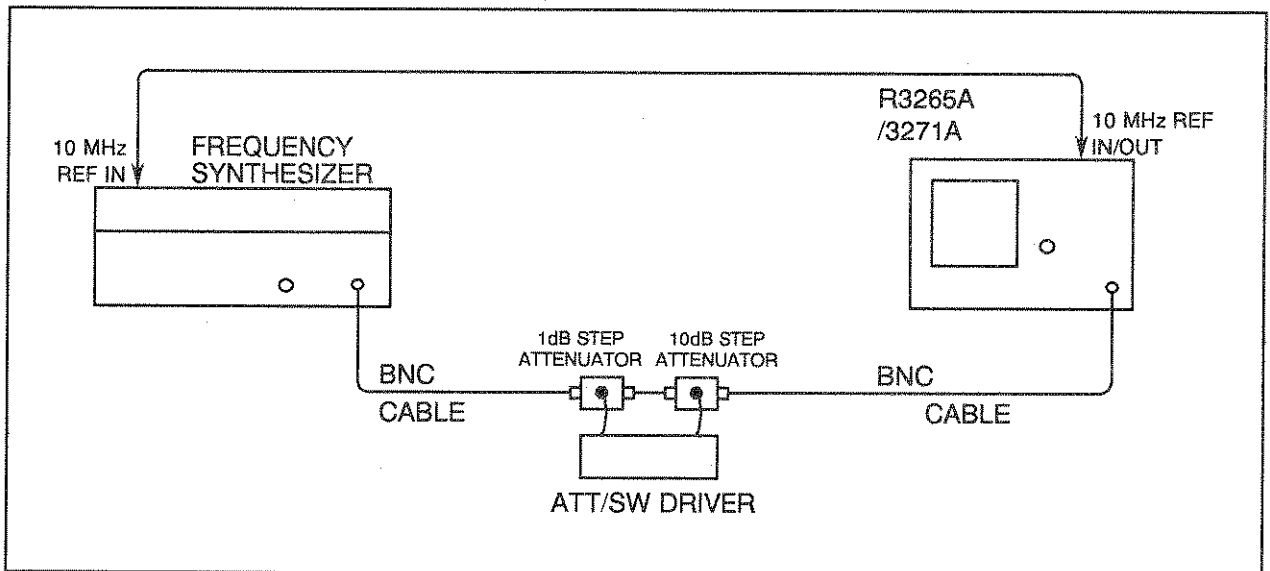

Figure 4-16 Scale Fidelity Test Setup
This test measures display accuracy for 1 dB, 10 dB log scales, X1, X2 linear scales and 10 dB QP mode log scale. All scales are measured with 0 dBm reference signal. Figure 4-16 illustrates the measurement system of this test. The frequency synthesizer is phase-locked to the 10 MHz reference source of the spectrum analyzer.
(1) Connect the equipment as shown in Figure 4-16.
(2) Set the frequency synthesizer controls as follows: